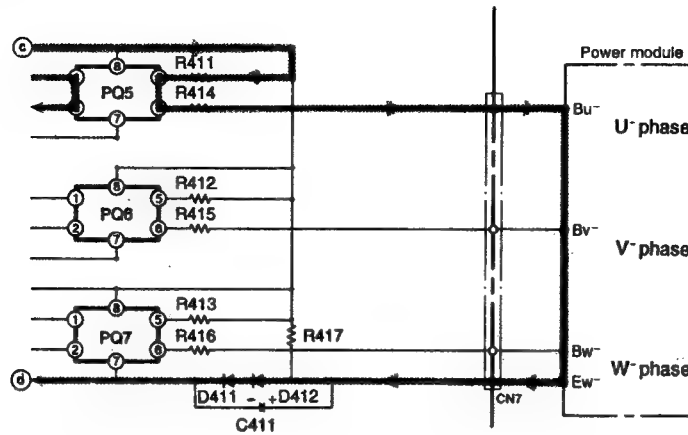

Fig. 7-4
Fig. 7-4 shows the lower arm drive circuit.
- When pin ②⑥ of the micro computer goes "HI" → "LO", a photocoupler between PQ5 pins ① and ② turns on and current flows to terminal ③ → R411 → PQ5 → R414 → power module's BU- terminals → Ew- terminals → D412 → D411 → terminal ④ and drives the lower arm transistors. (Fig. 7-4)
- The signals which turn on or off according to the position detection signals are output from pins ②⑥ ②⑦ ②⑧ of the micro computer in the same way as in the upper arm drive circuit and are input to pins ② of photocouplers PQ5-PQ7.